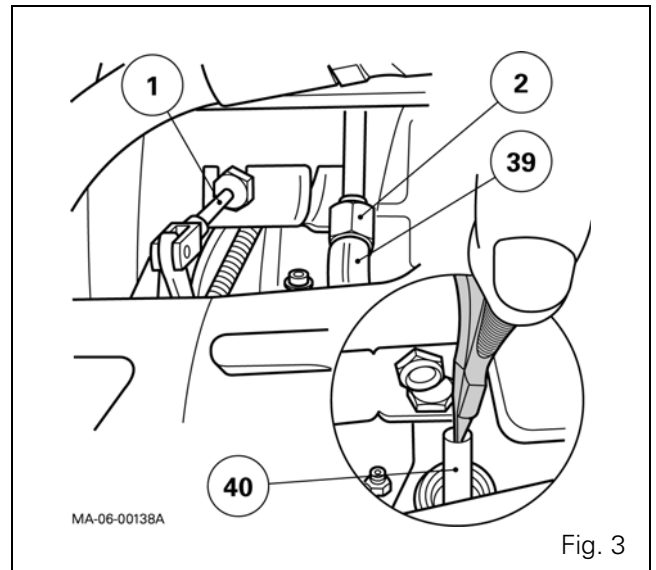

Fig. 3
2. Disconnect the supply pipe (2), unscrew the union (39) and take out the pipe (40) (Fig. 3).
NOTE: If access to the union (39) is difficult on tractors fitted with 4-speed LSPTO, remove the control (1) (Fig. 3).
19. Fit pipe (40) and union (39) (Fig. 3).
23. Disconnect the pressure gauge and reconnect the supply pipe (2) (Fig. 3).
If removed, reconnect the 4-speed LSPTO control (Fig. 3) and set the control (see section 7).
Check the oil tightness of the supply pipe (2) (Fig. 3) and the correct operation of the differential lock.